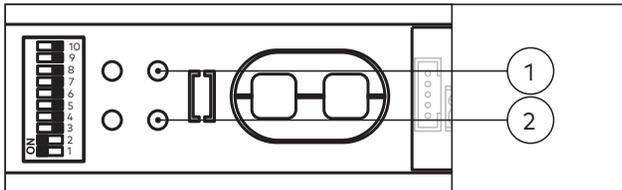

Fig. 49 Set the speed and the hold-open time
1. Set the speed on the speed potentiometer (Fig. 49/1).
2. Set the hold-open time on the hold-open time potentiometer (Fig. 49/2).